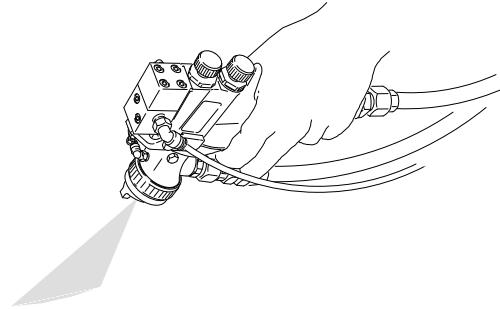

Fig. 22
- C. Point the gun down into the spray booth* and spray until the water sprays clear. See Fig. 22.